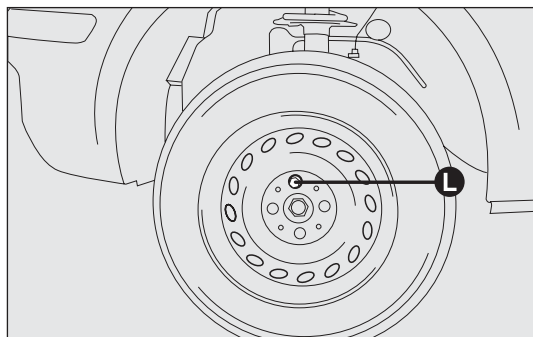

fig. 148
- ☐ for versions with hub caps, remove the cap after unscrewing the 3 fastening bolts and then unscrew the fourth bolt L-fig. 148 and remove the wheel;